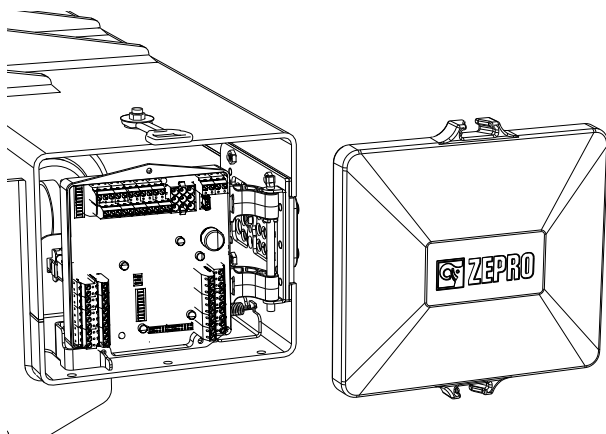

Figure 19. Remove the protective cap
2. Remove the protective cover mounted with a rubber strap; see Figure 19.